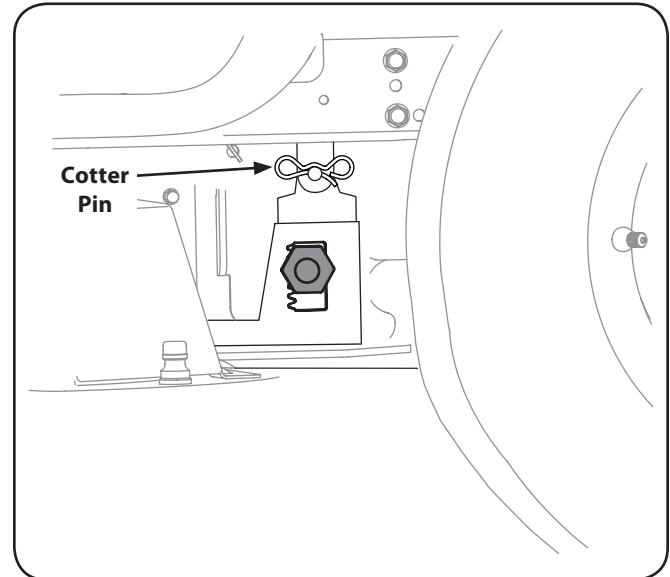

Figure 7-5
4. Pull the cotter pins out of the four deck lift adjustment brackets. See Fig. 7-5.